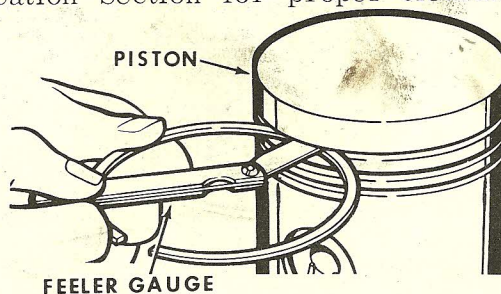

Figure M-29
7. Using a micrometer, check the diameter at the top and the skirt of the piston. Check the compression and oil ring groove clearances, Figure M-29. Refer to Specification Section for proper clearance.